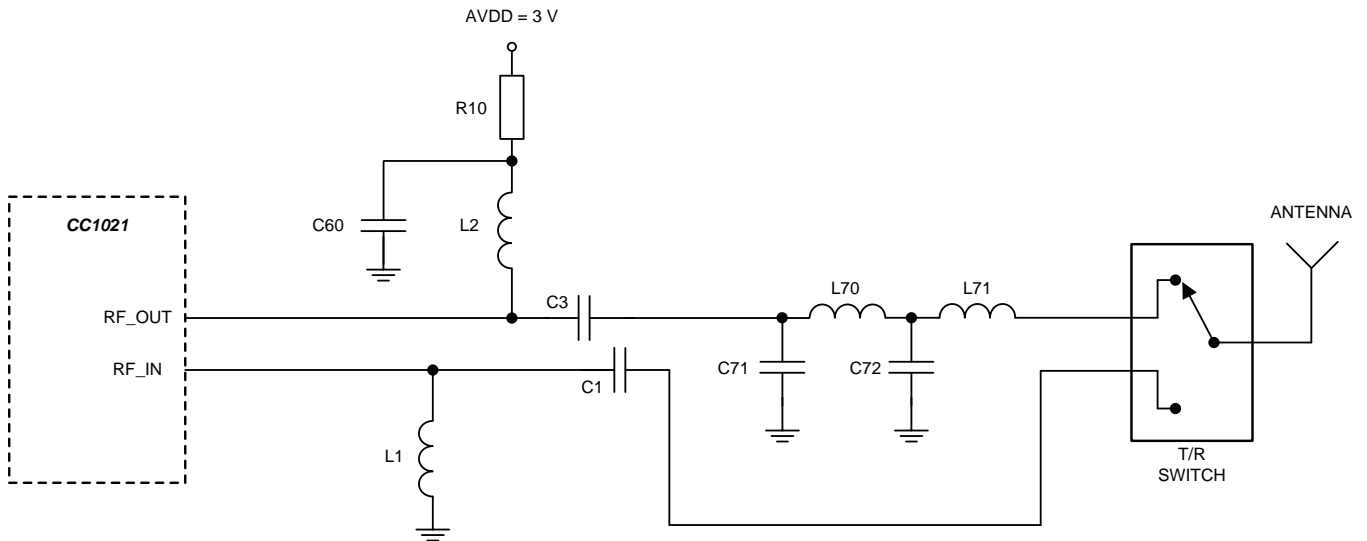

Figure 5-22. Input and Output Matching Network
When designing the impedance matching network for the CC1021 the circuit must be matched correctly at the harmonic frequencies as well as at the fundamental tone. A recommended matching network is shown in Figure 5-22. Component values for various frequencies are given in Table 5-8. Component values for other frequencies can be found using the SmartRF Studio software.
As can be seen from Figure 5-22 and Table 5-8, the 433 MHz network utilizes a T-type filter, while the 868/915 MHz network has a  $\pi$ -type filter topology.
**Table 5-8. Component Values for the Matching Network Described in Figure 5-22**